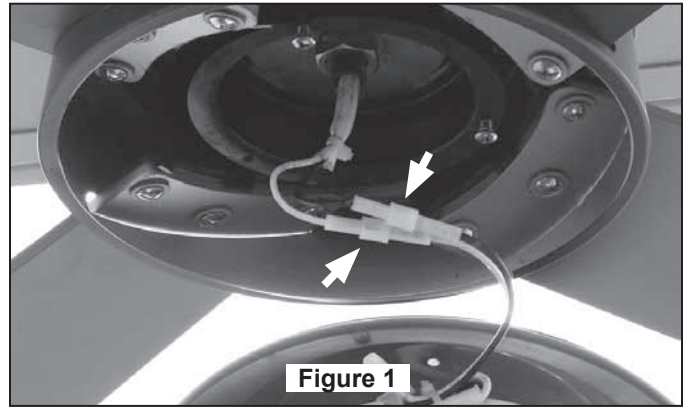

Figure 1
1. Align the wide notch (with red dot) of fan motor assembly to the wide tab (with red dot) of ceiling plate and narrow notch (with white dot) of fan motor assembly to the narrow tab (with white dot) of ceiling plate. (Figure 1)
1. Carefully slide the blade through the slot as shown. (Figure 1)
1. Securely attach plugs from motor to sockets on Support Light Kit Assembly (Figure 1)